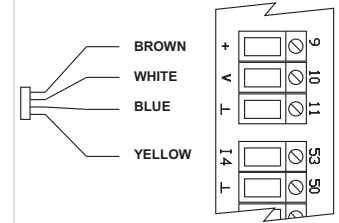

Fig. 16
- connection polarity arbitrary (Fig. 16)